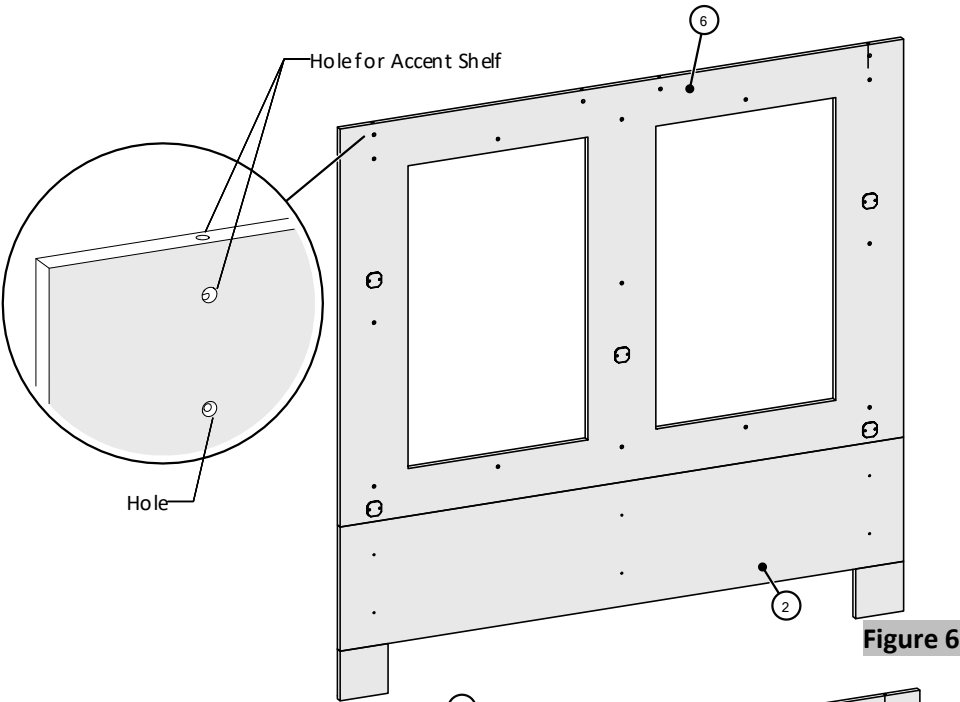

Figure 6
- Position and align the edges of the Gallery Wall Backer Top with the edges of the Gallery Wall Backer Bottom; mark the location of Gallery Wall Backer Top and wall through holes in the gallery Wall Backer Top using 3/16" diam. drill bit, (Figure 6).